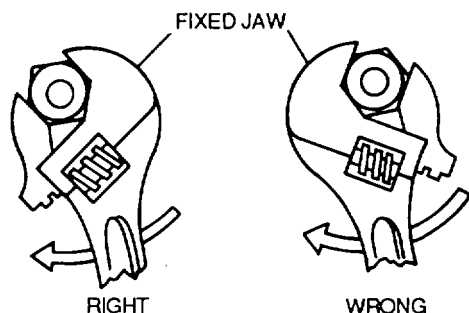

Figure 4-35. Proper Procedure for Pulling Adjustable wrenches
(4) *Use of adjustable wrenches.* Adjustable wrenches should be used only when wrenches of correct size are unavailable. They should be properly adjusted and pulled so the handle moves in the direction of the adjustable jaw, as shown in figure 4-35. Place the wrench on the nut so that the force used to turn it is applied to the stationary jaw side of the wrench